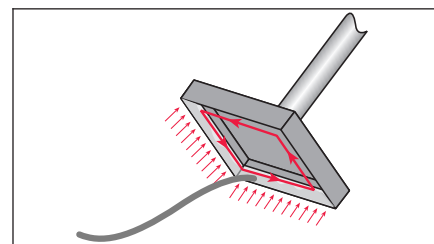

Figure 2 Tin Tip
6. Tin the tip evenly around the inside edge, ensuring that there is good wetting all the way around. (See Figure 2.)